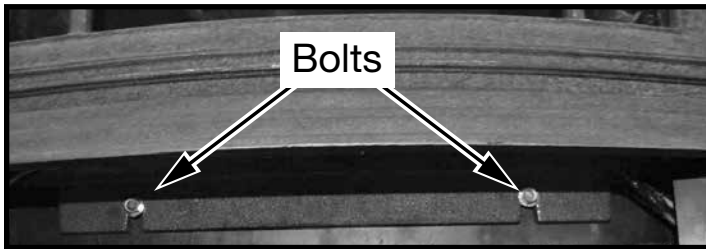

Figure 15: Bolts securing ash lip to firebox.
3. Loosen the two bolts that secure the ash lip to the firebox (Figure 15)), carefully lift up the ash lip and remove from the firebox and unscrew the wire support tabs (Figure 16) noting how the wire are held in place.